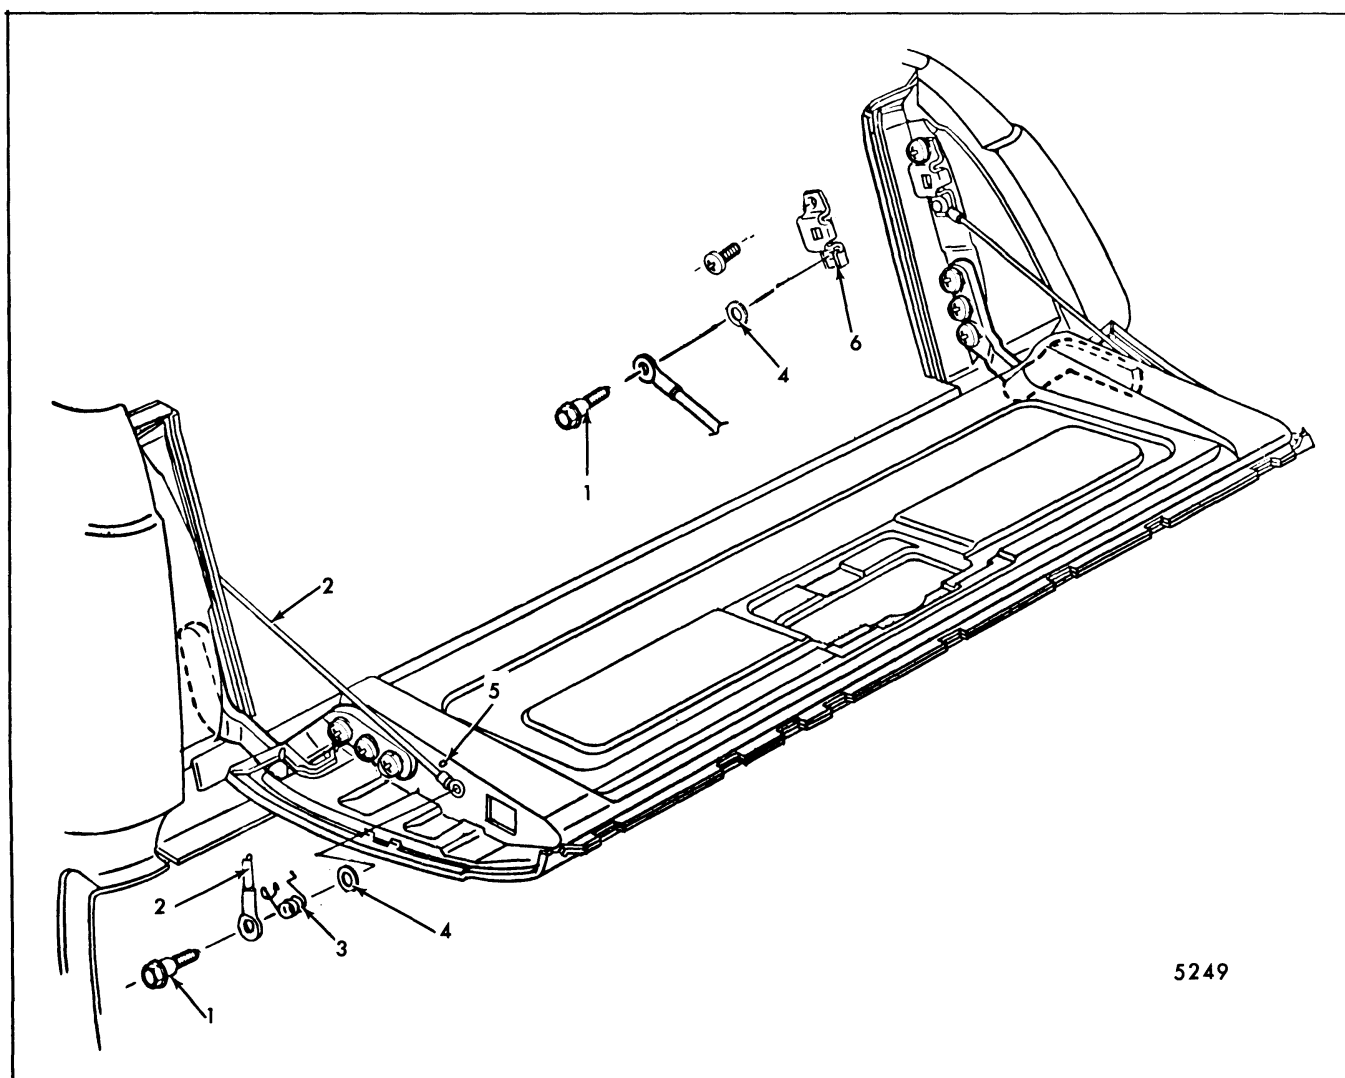

Fig. 7-77-Tail Gate Support Cable Attachment
2. Disengage support cable return spring and remove cable attaching bolts on tail gate and body pillar (Fig. 7-77). Remove support cable.
2. Disengage support cable return springs and remove support cable attaching bolts on tail gate (Fig. 7-77).
2. Remove latch striker attaching screws and remove striker from body pillar (Fig. 7-77).